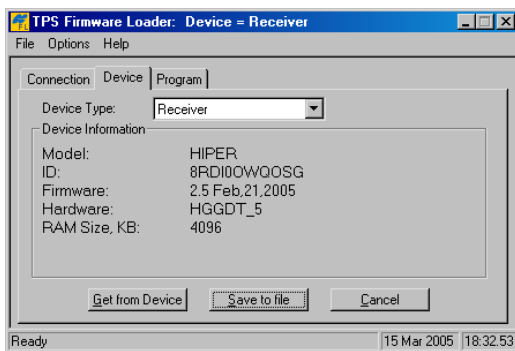

**Figure 4-18. Get Device Type**
1. In FLoader, click the **Device** tab and set the *Device Type* as "Receiver". Then click **Get from Device** for device information (Figure 4-18).